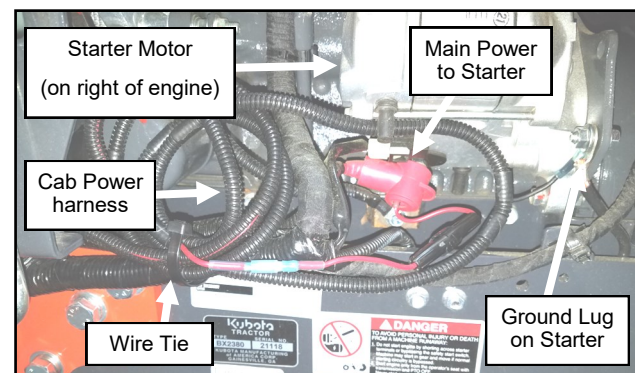

Fig. 19.9 (Connect Harnesses to Starter)
- 19.9** Locate the fuse harness (WH-GF). Make certain the fuse is installed in the fuse holder, unbolt the main power cable attached to the starter and re-secure with the ring terminal on the fuse harness. See Figure 19.9.
- 19.10** Unbolt the ground wire on the starter bracket and re-secure with the ground terminal on. See Figure 19.9.